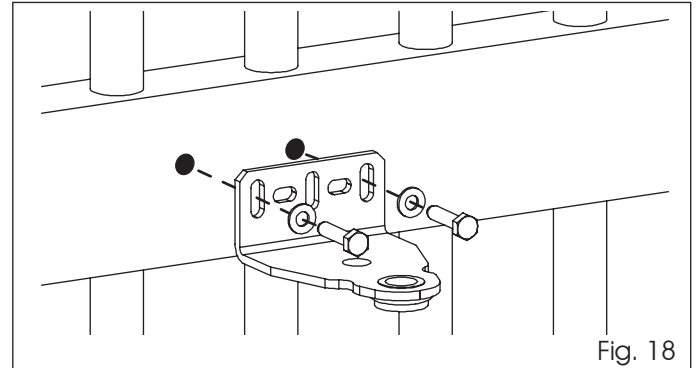

Fig. 18
- Permanently secure the front bracket, using a suitable system as indicated in Fig. 18.